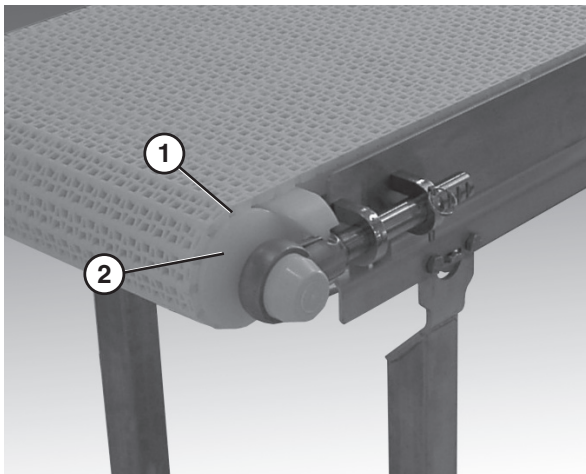

Figure 48
2. Secure the retaining head (**Figure 48, item 1**) side of the belt by bracing it against the flanged puck (**Figure 48, item 2**).